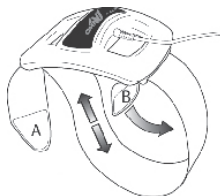

Figure 1
6. To tighten or loosen the strap, remove and reposition Velcro tab "A". Adjust strap until it feels comfortable and secure. (Figure 1)
9. To tighten or loosen the strap, remove and reposition Velcro tab "A". Adjust strap until it feels comfortable and secure. (Figure 1)